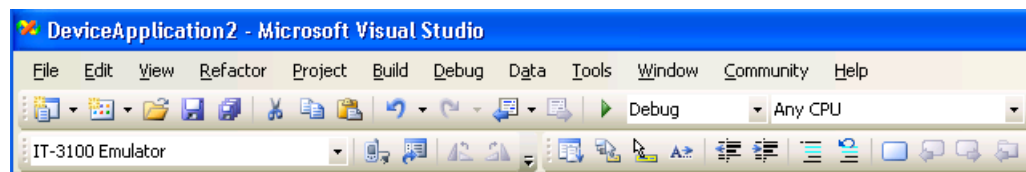

Figure 7.18
- Choose **Debug** in the Solution Configurations pull-down menu in Visual Studio 2008 or Visual Studio 2005 and **IT-3100 Emulator** in the target device pull-down menu. See Figure 7.18.